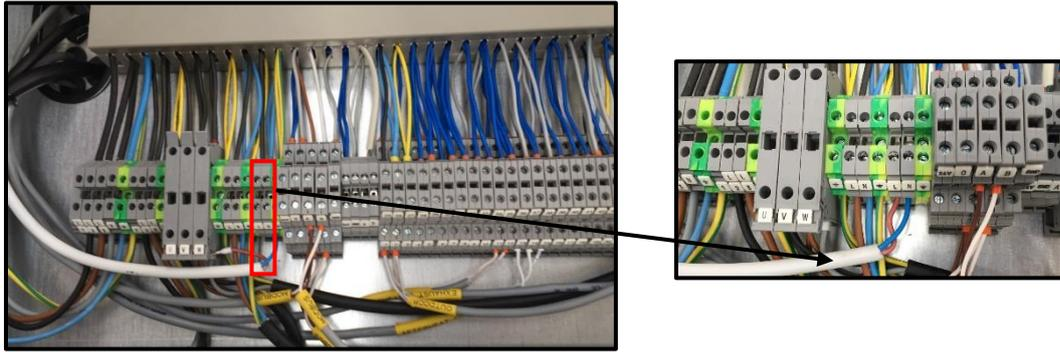

Fig. 146
4. Connect the other end of the cable to the marked terminals in the terminal box (refer to chapter 8 for connections) (Fig. 146)